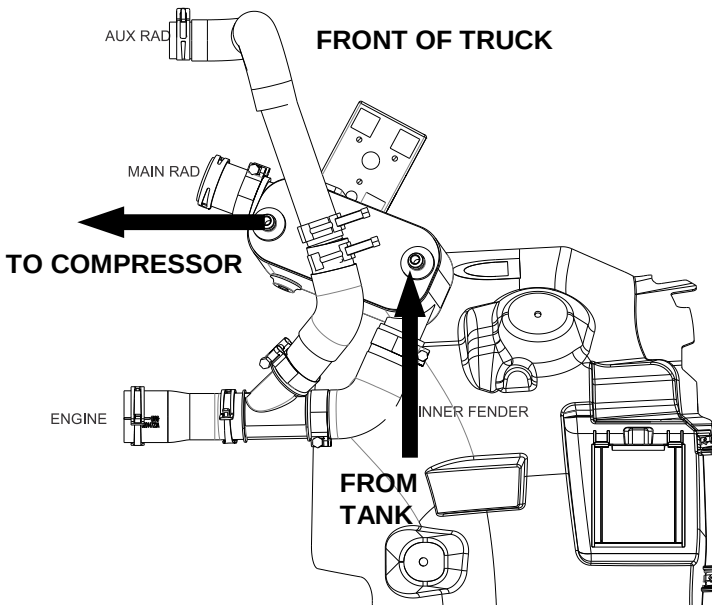

Figure 4.14
- Connect the 90° fitting on the driver's side port on the cooler (See Fig. 4.14).